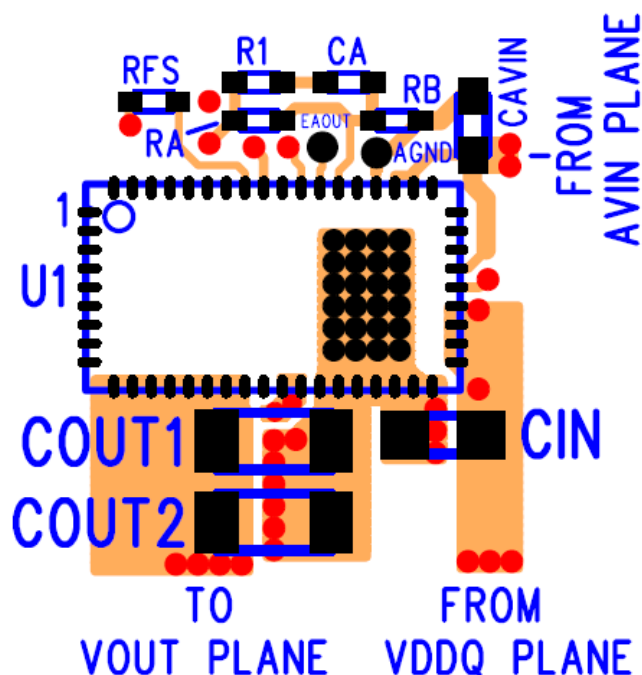
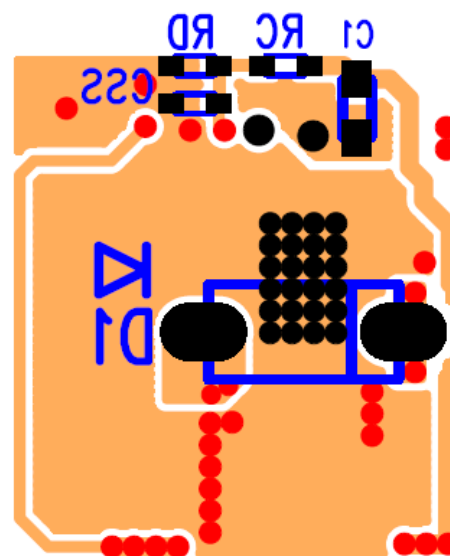

Figure 8: Top PCB Layer with Critical Components and Copper for Minimum Footprint (Top View)
Figure 9: Bottom PCB Layer with Critical Components and Copper for Minimum Footprint (Top View)
Figure 8 and Figure 9 shows critical components along with top and bottom traces of a recommended minimum footprint of the EV1340QI layout with ENABLE tied to  $V_{IN}$ . Alternate ENABLE configurations and other small signal pins need to be connected and routed according to specific customer application. Please see the Gerber files on the Enpirion website [www.enpirion.com](http://www.enpirion.com) for exact dimensions and other layers. Please refer to Figures 8 and 9 while reading the layout recommendations in this section.
The drill diameter of the vias should be 0.33mm, and the vias must have at least 1 oz. copper plating on the inside wall, making the finished hole size around 0.20-0.26mm. Do not use thermal reliefs or spokes to connect the vias to the ground plane. This connection provides the path for heat dissipation from the converter. Please see Figures 8, 9, 10, and 11.
**Recommendation 5:** Multiple small vias (the same size as the thermal vias discussed in recommendation 4) should be used to connect ground terminal of the input capacitor and output capacitors to the system ground plane. It is preferred to put these vias under the capacitors along the edge of the GND copper closest to the +V copper. Please see Figure 8 and Figure 9. These vias connect the input/output filter capacitors to the GND plane and help reduce parasitic inductances in the input and output current loops. If the vias cannot be placed under  $C_{IN}$  and  $C_{OUT}$ , then put them just outside the capacitors along the GND slit separating the two components. Do not use thermal reliefs or spokes to connect these vias to the ground plane.
**Recommendation 6:** AVIN1 and AVIN2 are the power supplies for the internal small-signal control circuits. AVIN1 and AVIN2 should be powered by an external supply. In Figure 8, the filter capacitor  $C_{AVIN}$  is connected closely from the AVIN1 and AVIN2 pins to AGND for proper filtering of the control circuit.
**Recommendation 7:** The layer 1 metal under the device must not be more than shown in Figure 8. See the section regarding exposed metal on bottom of package. As with any switch-mode DC/DC converter, try not to run sensitive signal or control lines underneath the converter package on other layers.
**Recommendation 9:** Keep  $R_A$ ,  $C_A$ ,  $R_1$  and  $R_B$  close to the VFB pin (see Figure 8). The VFB pin is a high-impedance, sensitive node. Keep the trace to this pin as short as possible. Whenever possible, connect  $R_B$  directly to the AGND pin instead of going through the GND plane.
**Recommendation 12:** The Schottky diode  $D_1$  should be connected with anode to SW and cathode to VDDQ with very low inductance traces. Place  $D_1$  directly under the device as shown in Figure 9. Vias near SW and VDDQ connect these pins to the  $D_1$  terminals. The recommended diode for this layout is ST Microelectronics TMBYV10-40FILM. Contact Enpirion Applications Support for alternate options for this diode.